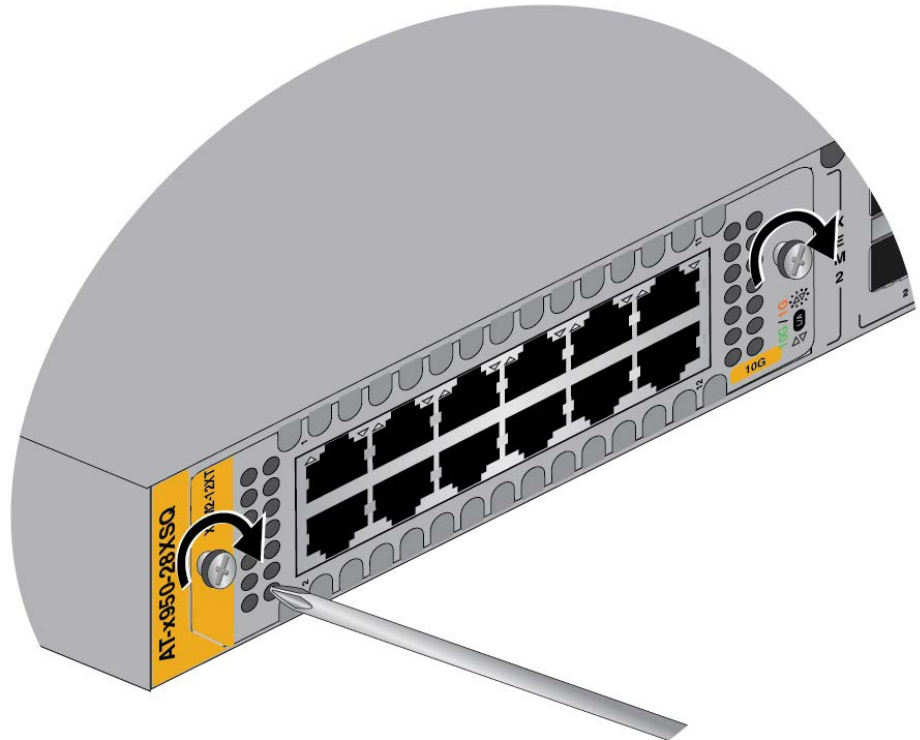

Figure 46. Tightening the Two Captive Screws on the XEM2 Line Card
6. Tighten the two captive screws on the card to secure it in the switch. Refer to Figure 46 on page 109.